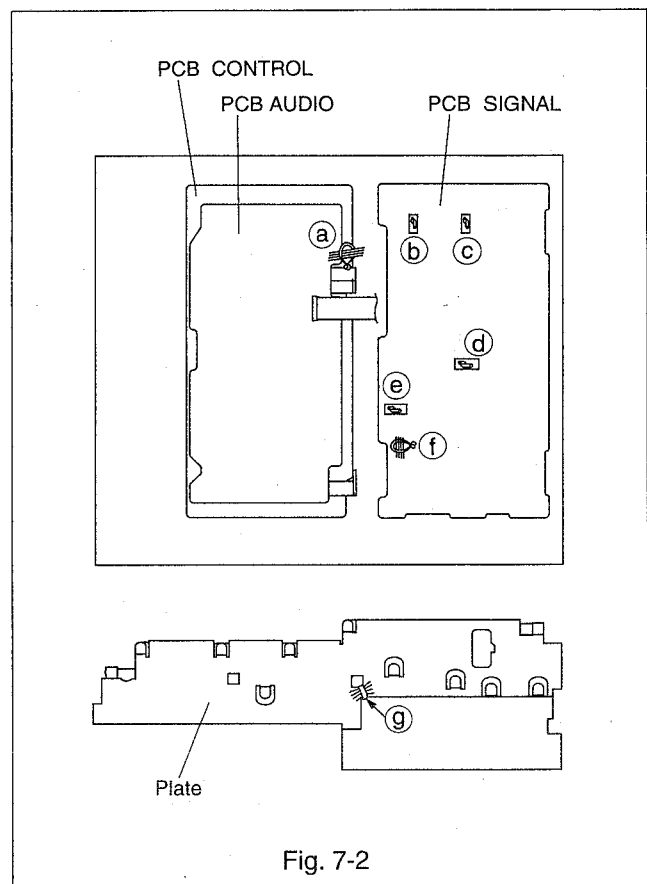

Fig. 7-2
- b. Remove six clamps (a~f) of the PCB SIGNAL. (Refer to Fig. 7-2)
(Refer to Fig. 7-2)